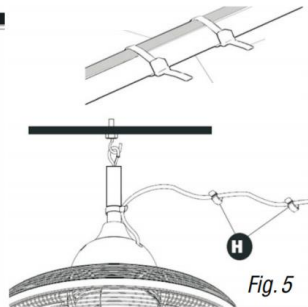

Fig. 5
3. Attach cable ties to support the cord along the downrod and roof support rod as needed. Trim off any excess cable tie material (Fig. 5).